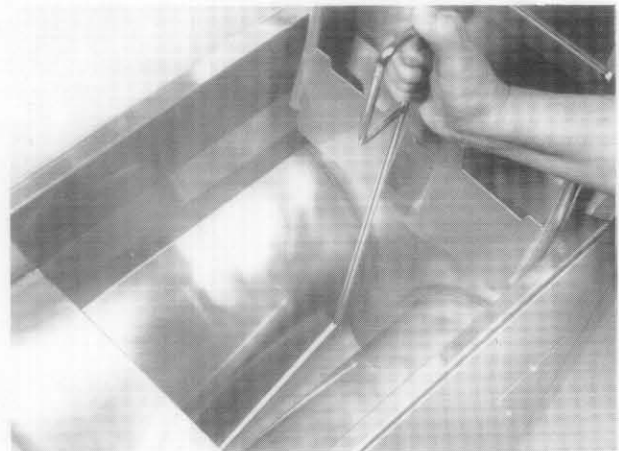

Figure 7
4. If the drain valve becomes clogged with food particles, you may wish to use the FRYER'S FRIEND (poker like tool). This tool must be used from INSIDE the frypot ONLY (Figure 7). Carefully grip the tool as far as possible away from the shortening in the frypot. DO NOT hammer on the drain valve as damage to the ball inside will cause it to leak. DO NOT insert into front of drain valve in an attempt to unclog the valve; hot shortening will rush out creating the potential for injury.